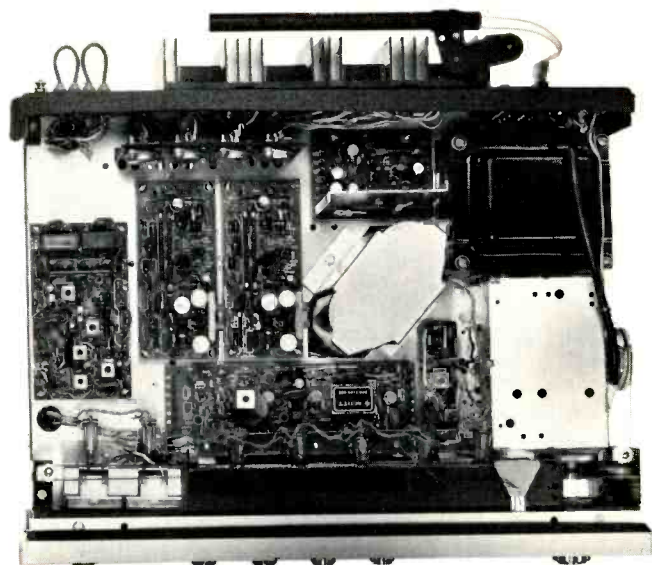

Fig. 2—Interior of the Scott 477. Note the modular PC board approach to design.
H. H. Scott was among the first companies to pioneer the modularized approach in component high fidelity manufacture and in the Model 477 they have refined this approach even further. We counted no less than 12 individual board modules, not including the input antenna balun. Many of these modules can be seen in the top view of the inside of the 477 chassis shown in Fig. 2. This approach, besides reducing the amount of point to point wiring and soldering, enables Scott to offer rapid servicing, if required. If you ever have to send a Scott unit such as this to the factory or an authorized service station for repairs, instead of "trouble shooting" the defective module, it is replaced by an identical module for a flat fee of \$10.00, speeding the return of your unit. Solderless "tension wrap" connections are used wherever possible, eliminating a good deal of hand soldering and attendant "cold solder joint" possibilities.